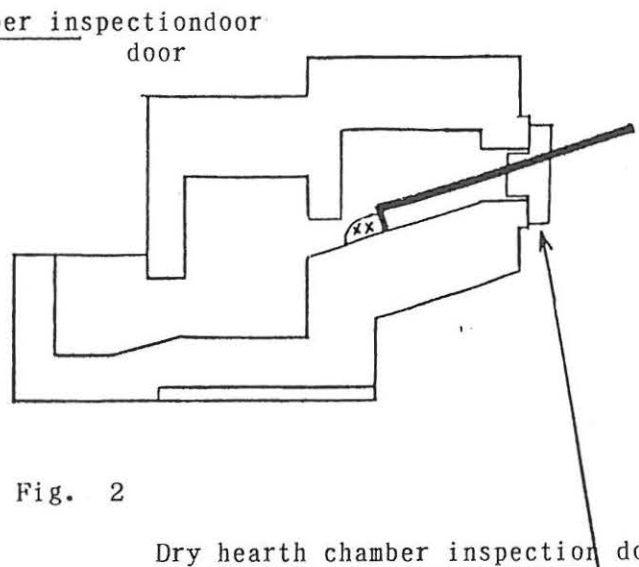

Fig. 2
- (3) Drop soft material into the holding chamber from the dry hearth chamber inspection door.(Fig.2)
- (4) Move remaining material in front of melting chamber inspection door to the dry hearth chamber.
- (5) Repeat works (2)(3)(4), and clean the melting chamber and dry hearth chamber
- (6) Extinguish the melting burner, and then close the charging door.
- (7) Perform flux treatment in the holding chamber.